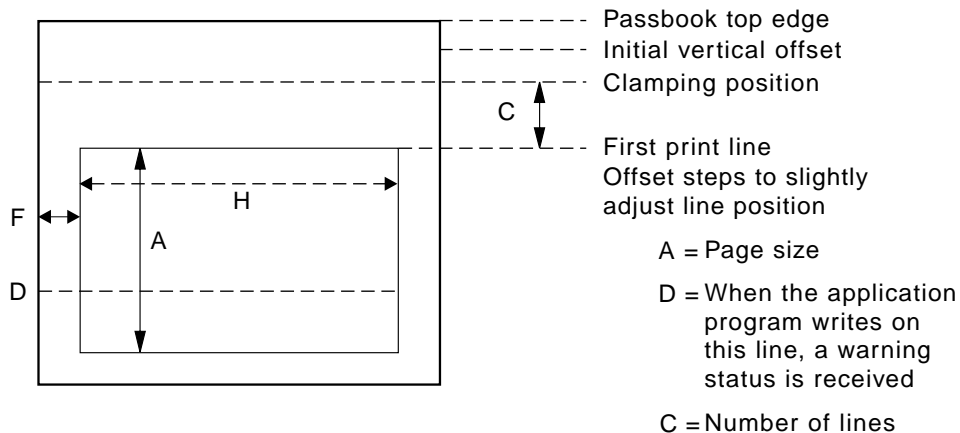

Figure 15. Document Dimensions for IBM 4770 Printer Customization
- HRZOFFS** Is an optional keyword to define the horizontal character offset. That is, the number of characters that the first print character is to be offset beyond the minimum distance from the left edge. (Refer to 'F' in Figure 15 on page 338).
- LINELEN** Is an optional keyword to define the maximum line length (number of characters being written in one line). (Refer to 'H' in Figure 15 on page 338).
Is an optional keyword to define the page size, that is, the number of print lines per page. (See dimension 'A' in Figure 15 on page 338.)
Is an optional keyword to define the number of lines between the first printable line and the real first printing line. (Refer to 'C' in Figure 15 on page 338).
**WRNLINE** Is an optional keyword to define the number of the line at which an attention item is reported to the application. Allowed values are from 0 to the specified PAGESIZE. The default is **0**. (Refer to 'D' in Figure 15 on page 338).